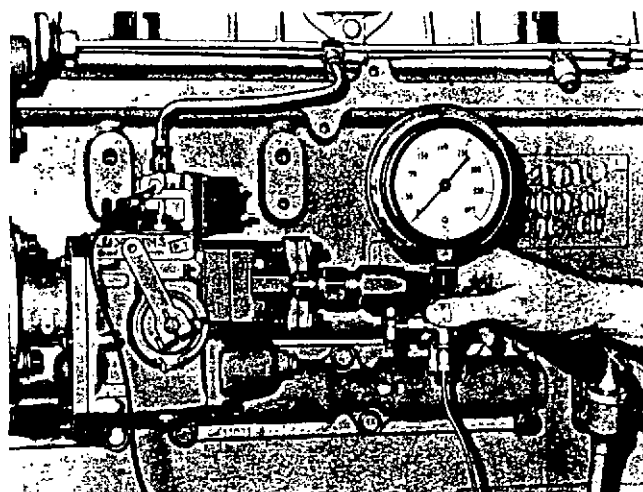

Fig. 5-38, N11491. Checking fuel manifold pressure with ST-435
1. Check maximum fuel manifold pressure with ST-435. Fig. 5-38. Remove 1/8 in. pipe plug from side of fuel shut-off valve on top of fuel pump. Connect the gauge line in pipe plug hole.